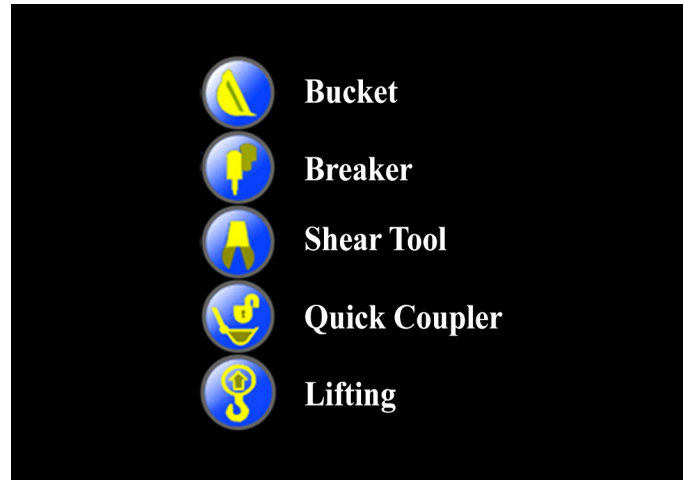

Figure 3-63
1. Select one of five tool icons. See Figure 3-63.
1. Select the Bucket option. See Figure 3-63.